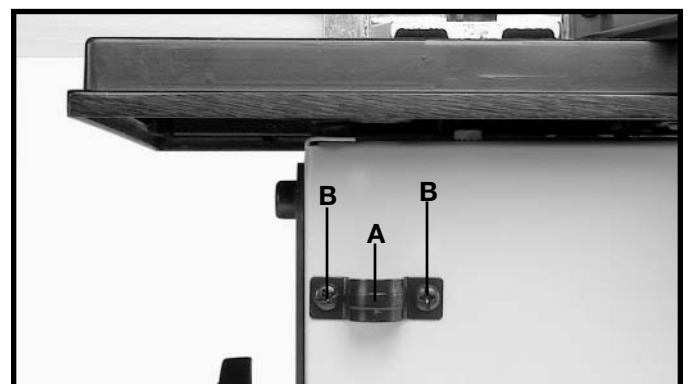

Fig. 6
Assemble the overhead cutter guard holding bracket (A) Fig. 6, to the rear of the Router/Shaper and fasten with the two M6x10mm cheese head screws (B).